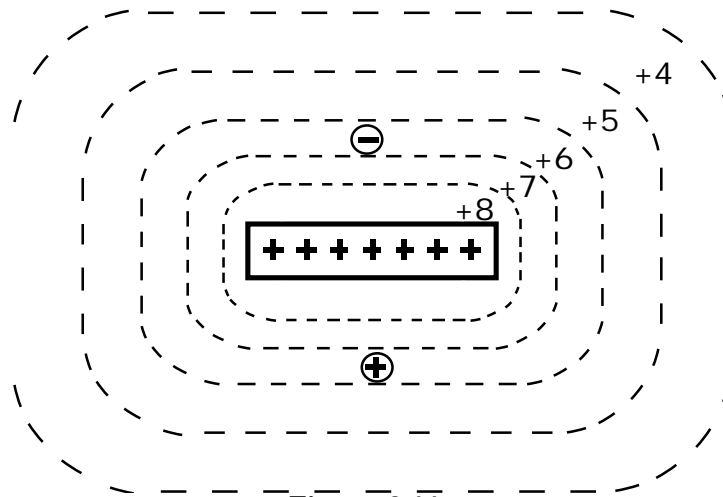

Figure 9.11a
2. On the diagrams in Figures 9.11a and 9.11b, draw arrows to show the directions that the (+) and (-) particles (small circles) are being pushed by the charged capacitor plates.
The arrows you placed in the halos in Figures 9.11a and 9.11b show that repulsion of like charges and attraction of unlike charges provide a different description of halos pushing (+) charge HIGH-->LOW and pushing (-) charge LOW-->HIGH.